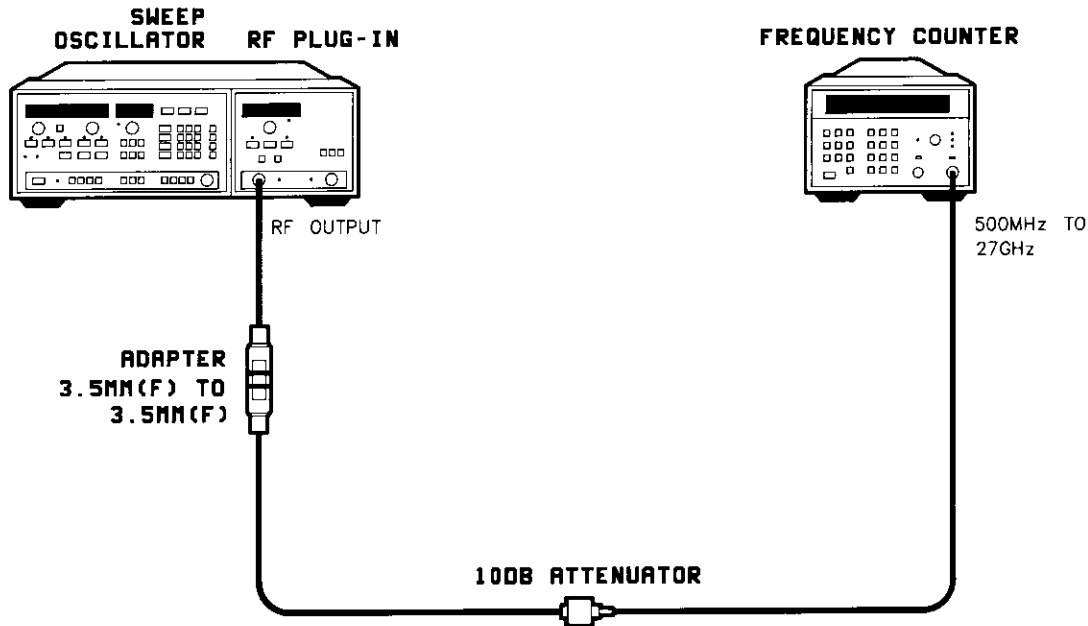

Figure 4-3. Frequency Change with 10 dB Power Level Change Test Setup
1. Connect the equipment as shown in Figure 4-3. Turn the equipment on and press **[INSTR PRE-SET]** on the sweep oscillator/RF plug-in. Allow one hour warm-up.